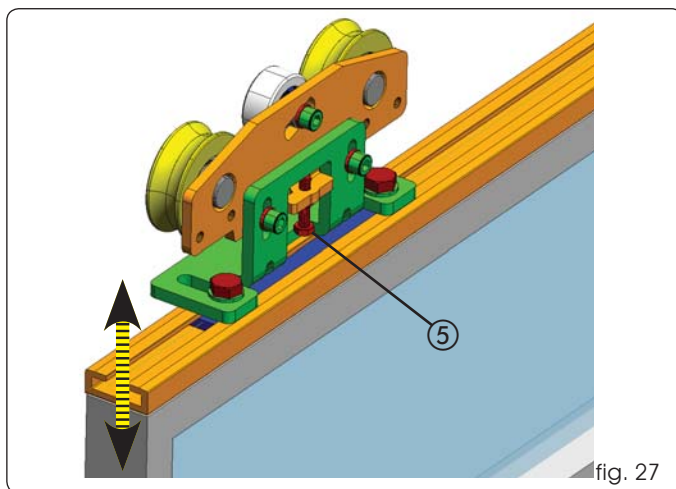

fig. 27
- Turn the screw (fig.27 ref.5 clockwise to raise the leaves or anti-clockwise to lower them.